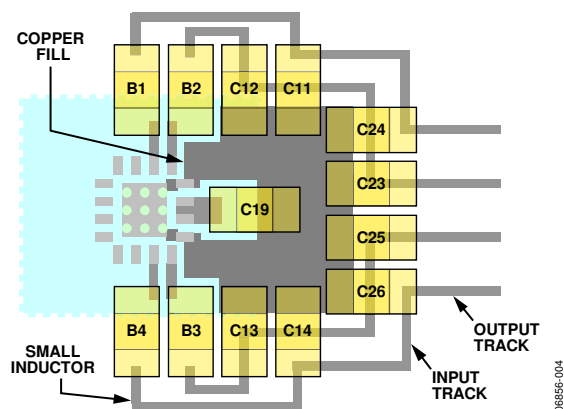
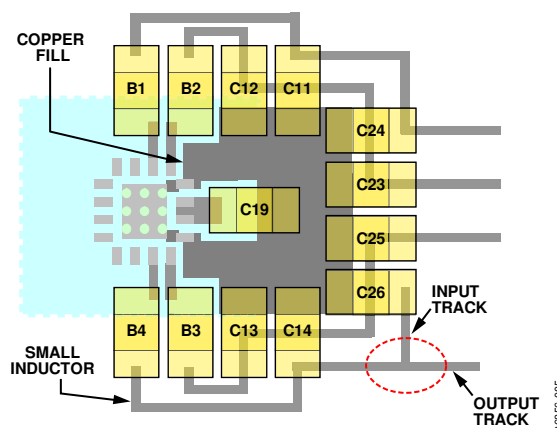

Figure 4. Placement and Routing of the Decoupling Capacitors
Figure 5. Incorrect Routing for the Output Decoupling Capacitors
3. Place the decoupling capacitors for the beads (C11 to C14 and C23 to C26) as close to the amplifier chip as possible, and connect all their ground terminals together, as shown in Figure 4. The same principle applies to the decoupling capacitors for the inductors (C15 to C18) if inductors are used in the application design. Ideally, solder their ground terminals together; do not rely on PCB tracks or ground planes to connect their ground terminals together.
4. Place the first decoupling capacitor for the power supply (C19) as close to the amplifier chip as possible, and connect its ground terminal directly to the IC GND pins (Pin 13 and Pin 16), as shown in Figure 4.
trace between these two capacitors serves as an inductor for filtering out the high frequency component, as shown in Figure 4.
13. The incoming and outgoing PCB track connections to the decoupling capacitors should not be connected to each other. An example of a correct layout is shown in Figure 4. An example of an incorrect layout is shown in Figure 5.